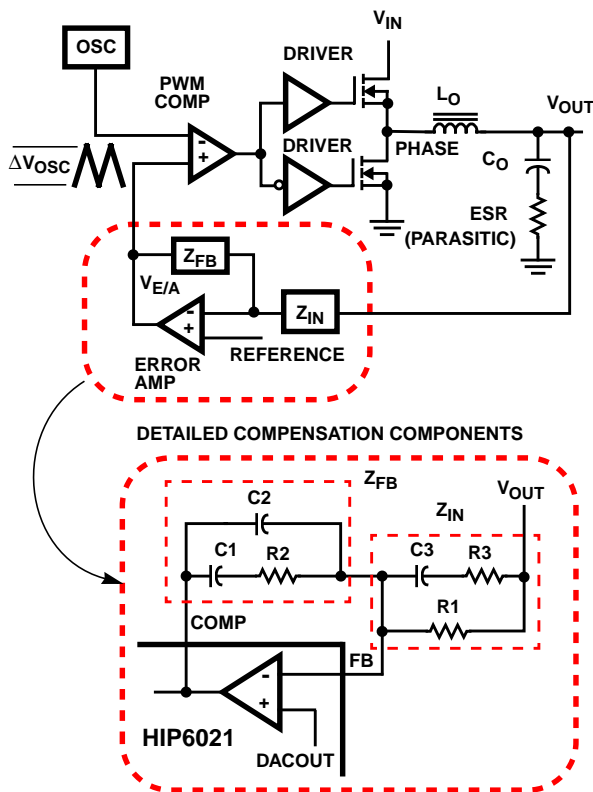
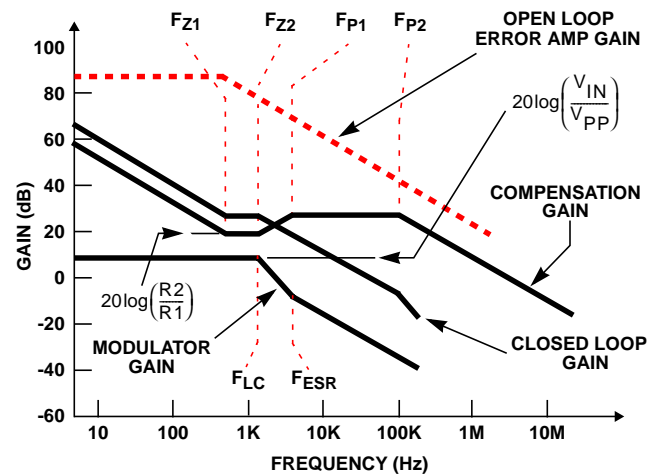

FIGURE 9. VOLTAGE-MODE BUCK CONVERTER COMPENSATION DESIGN
FIGURE 10. ASYMPTOTIC BODE PLOT OF CONVERTER GAIN
Figure 9 highlights the voltage-mode control loop for a synchronous-rectified buck converter. The output voltage (VOUT) is regulated to the Reference voltage level. The reference voltage level is the DAC output voltage (DACOUT). The error amplifier (Error Amp) output (VE/A) is compared with the oscillator (OSC) triangular wave to provide a pulse-width modulated (PWM) wave with an amplitude of VIN at the PHASE node. The PWM wave is smoothed by the output filter (LO and CO).
Figure 10 shows an asymptotic plot of the DC-DC converter's gain vs. frequency. The actual Modulator Gain has a high gain peak dependent on the quality factor (Q) of the output filter, which is not shown in Figure 9. Using the above guidelines should yield a Compensation Gain similar to the curve plotted. The open loop error amplifier gain bounds the compensation gain. Check the compensation gain at  $F_{P2}$  with the capabilities of the error amplifier. The Closed Loop Gain is constructed on the log-log graph of Figure 10 by adding the Modulator Gain (in dB) to the Compensation Gain (in dB). This is equivalent to multiplying the modulator transfer function to the compensation transfer function and plotting the gain.